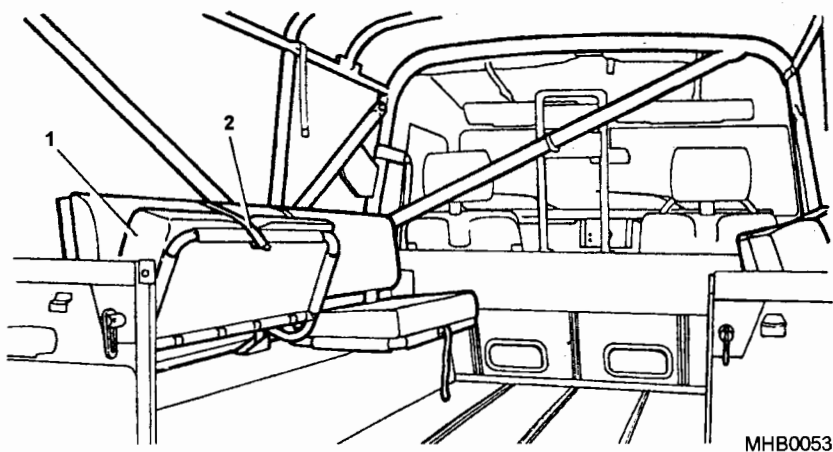

Fig 34 Bench seats
68 The seat cushions (Fig 34 (1)) can be stowed in an upright position by means of a strap with a metal hook (2) which fastens to the side of the seat.